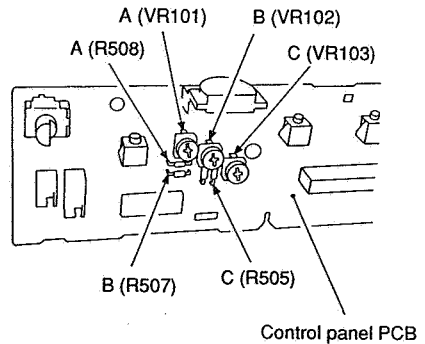

Figure 3-47A (FC330)
- 4) In the case of the FC330, adjust VR101 (A between terminal of VR101 and terminal of R508) and VR102 (B between terminal of VR102 and terminal of R507); see Figure 3-47A.